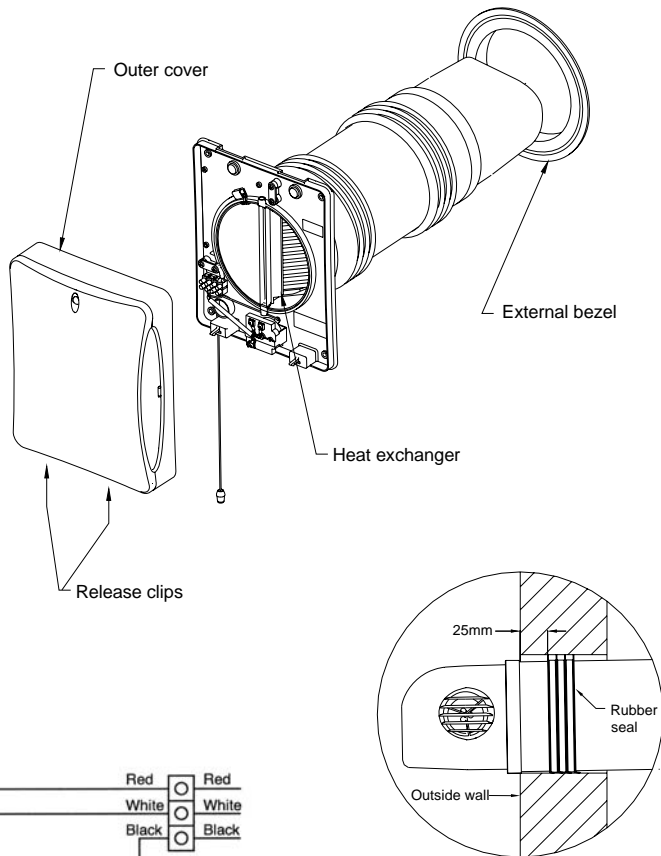

Fig.10
2. Measure the total wall thickness. The outer of the two rubber seals is adjustable and should be set in a position that is 25mm in from the outer face of the external wall (Fig. 10).